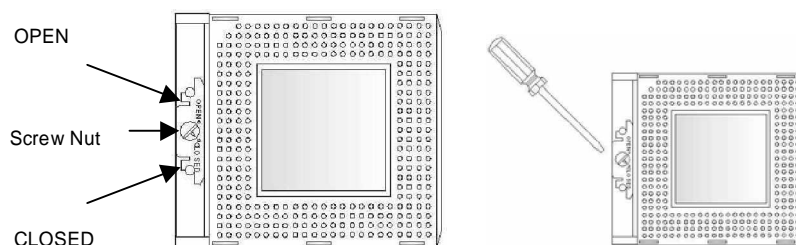

Figure 3-2 CPU Socket
1. Check and confirm that you are going to install correctly CPU type and pin numbers (Figure 3-2).